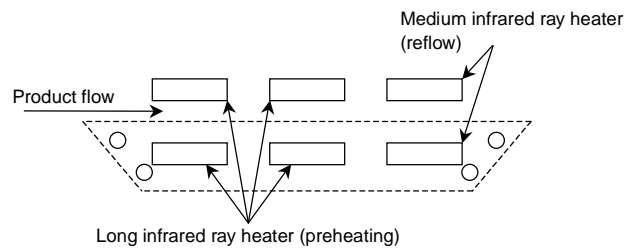

Figure 3.10 Heating Top and Bottom with Long or Medium Infrared Rays
(2) Using medium infrared ray reflow
- Heating top and bottom with long or medium infrared rays is recommended(see Figure3.10).